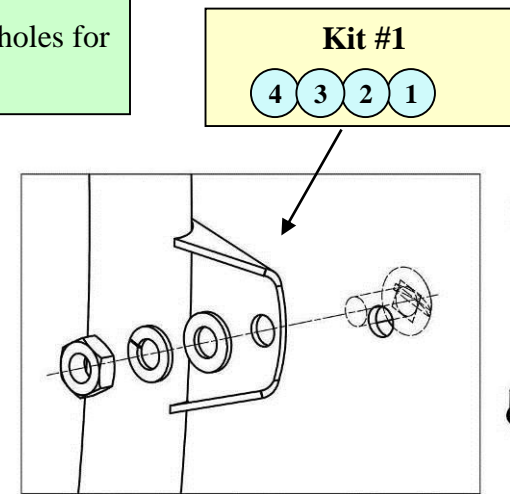

Fig 1.3
1.3 Insert screws from front side of the Dish, washers and nuts (Kit #1) from back side as shown in Fig 1.3 and 1.4 and connect the Holder Ring to the Dish. Tighten the nuts.